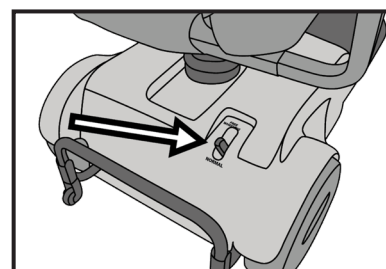

Figure 7
The Amigo can be moved manually if necessary. First, locate the manual brake lever on the rear cover, then push the manual brake lever forward to engage freewheeling mode. To disengage freewheeling mode, pull the brake lever toward the rear of the Amigo (Figure 7). When the Amigo is in “normal” mode, you can drive it as normal.
5. Put the Amigo in freewheel mode (Figure 7 on page 8), then lift the rear into the trunk of the vehicle and slide the rest into the trunk. This is easier to accomplish with two people.